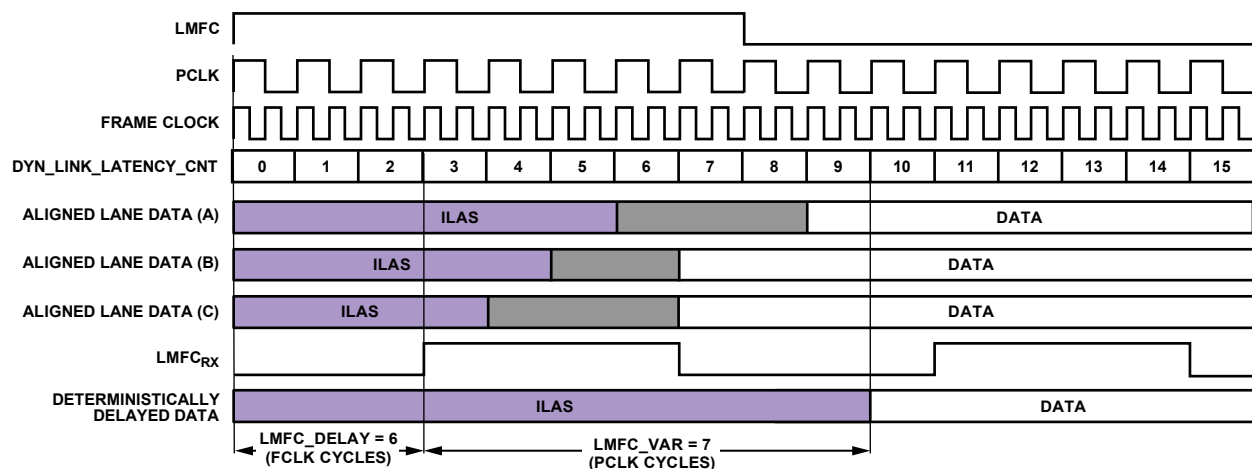

Figure 59. Multilink Synchronization Settings, Derived Method Example
Figure 59 shows how DYN_LINK_LATENCY_x (Register 0x302 and Register 0x303) provides a readback showing the delay (in PClock cycles) between LMFC_{RX} and the transition from ILAS to the first data sample. By repeatedly power cycling and taking this measurement, the minimum and maximum delays across power cycles can be determined and used to calculate LMFCVar and LMFCDel.
The example shown in Figure 59 is demonstrated in the following steps according to the procedure outlined in the Without Known Delays section. Note that this example is in Subclass 1 to achieve deterministic latency, which has a PClockFactor (frame clock rate/PClockRate) of 2 and uses K = 16; therefore, PClocksPerMF = 8.
1. In Figure 59, for Link A, Link B, and Link C, the system containing the AD9135/AD9136 (including the transmitter) is power cycled and configured 20 times. The AD9135/AD9136 are configured as described in the Device Setup Guide. Because the point of this exercise is to determine LMFCDel and LMFCVar, the LMFCDel is programmed to 0 and DYN_LINK_LATENCY_x is read from Register 0x302 and Register 0x303 for Link 0 and
Link 1, respectively. The variation in the link latency over the 20 runs is shown in Figure 59 in gray.